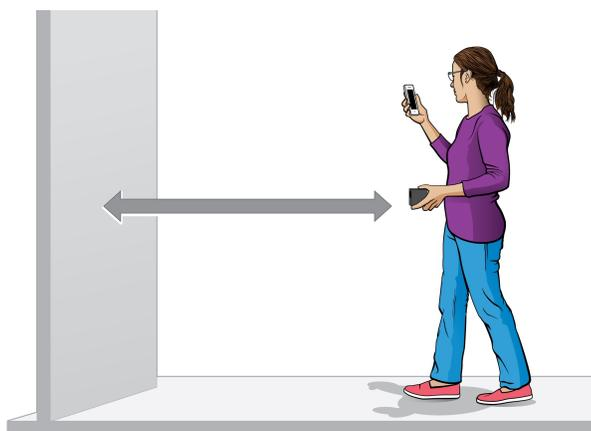

Figure 1
4. Monitor the position readings and practice walking toward the wall holding the motion detector and mobile device. During data collection, the sensor portion of the motion detector should always point directly at the wall as shown in Figure 1. Sometimes you will have to walk backwards. Confirm that the position values make sense as you move back and forth.